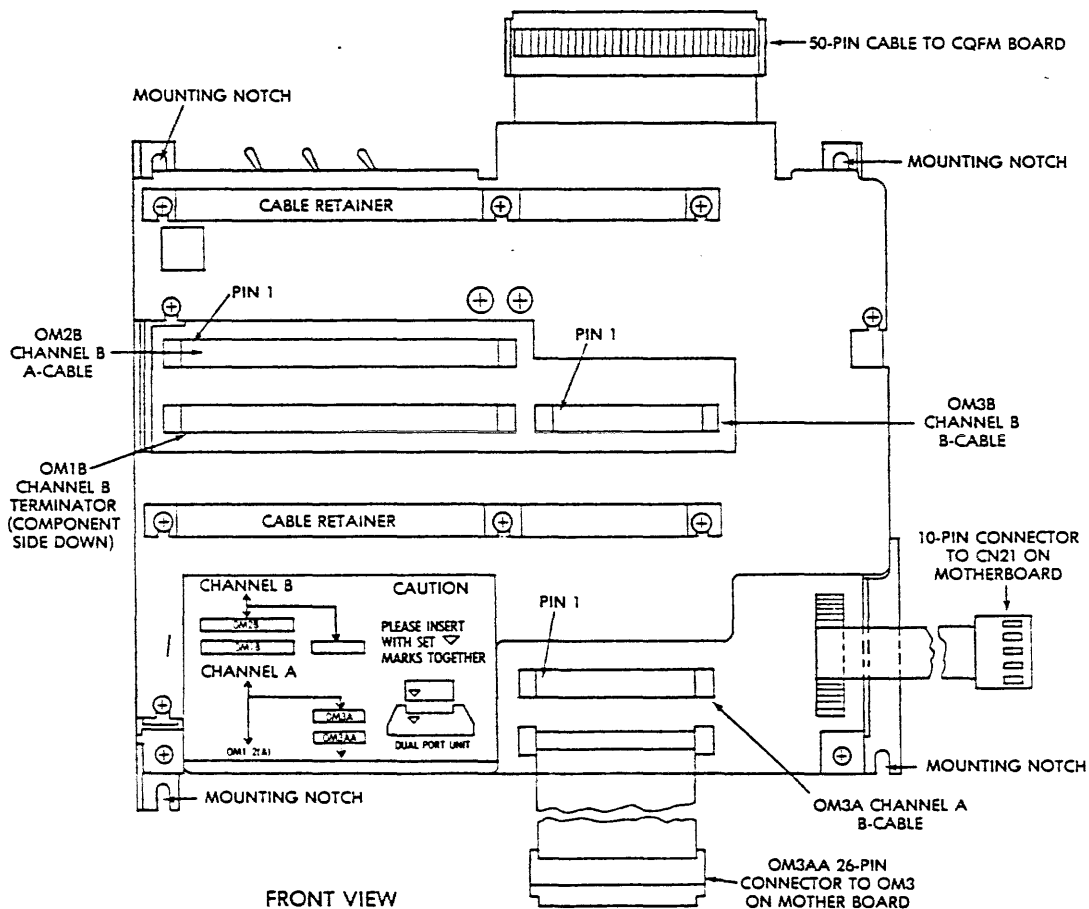

Figure B-1. Dual Channel Adapter
The 50-conductor cable is connected to the adapter at location CN31, the 26-conductor at Location CN34, and the 10-conductor at location CN32 (Figure B-1).
3. Place the adapter in such a manner that the elongated notches on the mounting brackets rest on the screws. Tighten the screws. See Figure B-1.
5. Install the Channel B terminator with the components facing down in order to maintain pin 1 to pin 1 correspondence. Figure B-1 shows the adapter cabled for dual-channel operation.